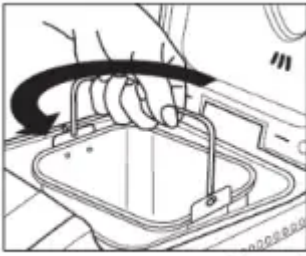

Figure 1
- Using the bread pan handle, turn the bread pan counter-clockwise and then pull it out of the appliance (Fig 1).